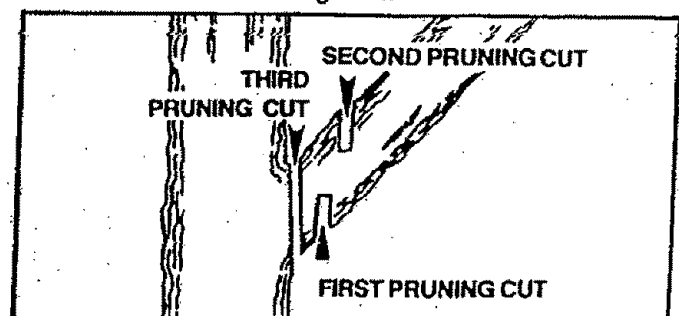

Figure 29
- b. Refer to Figure 29 for the pruning technique.